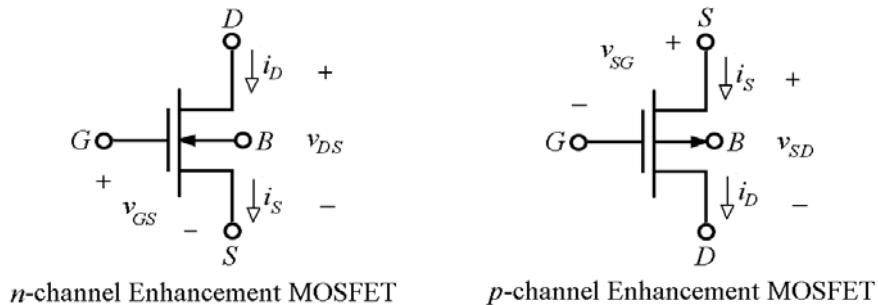

Fig. 1 – Circuit symbols, current directions, and voltage polarities for the MOSFETs.
Figure 1 shows the circuit symbols for the *n-channel* and the *p-channel enhancement MOSFETs*, the devices we are going to be using in this lab. The *gate (G)* of the MOSFET plays a similar role to the base (*B*) of the BJT. Similarly, the *drain (D)* can be likened to the collector (*C*), and the *source (S)* to the emitter (*E*). As in the case of BJTs, the *current directions* and *voltage polarities* of one device are *opposite* to those of the other. In fact, the *n-* and the *p-channel* devices are said to be *complementary* to each other, and when they are fabricated on the same substrate, the resulting technology is referred to as *complementary MOS*, or CMOS for short. Unlike the BJT, which requires a base current to go on, the FET has $i_G = 0$. Consequently, for FETs we have $i_S = i_D$.